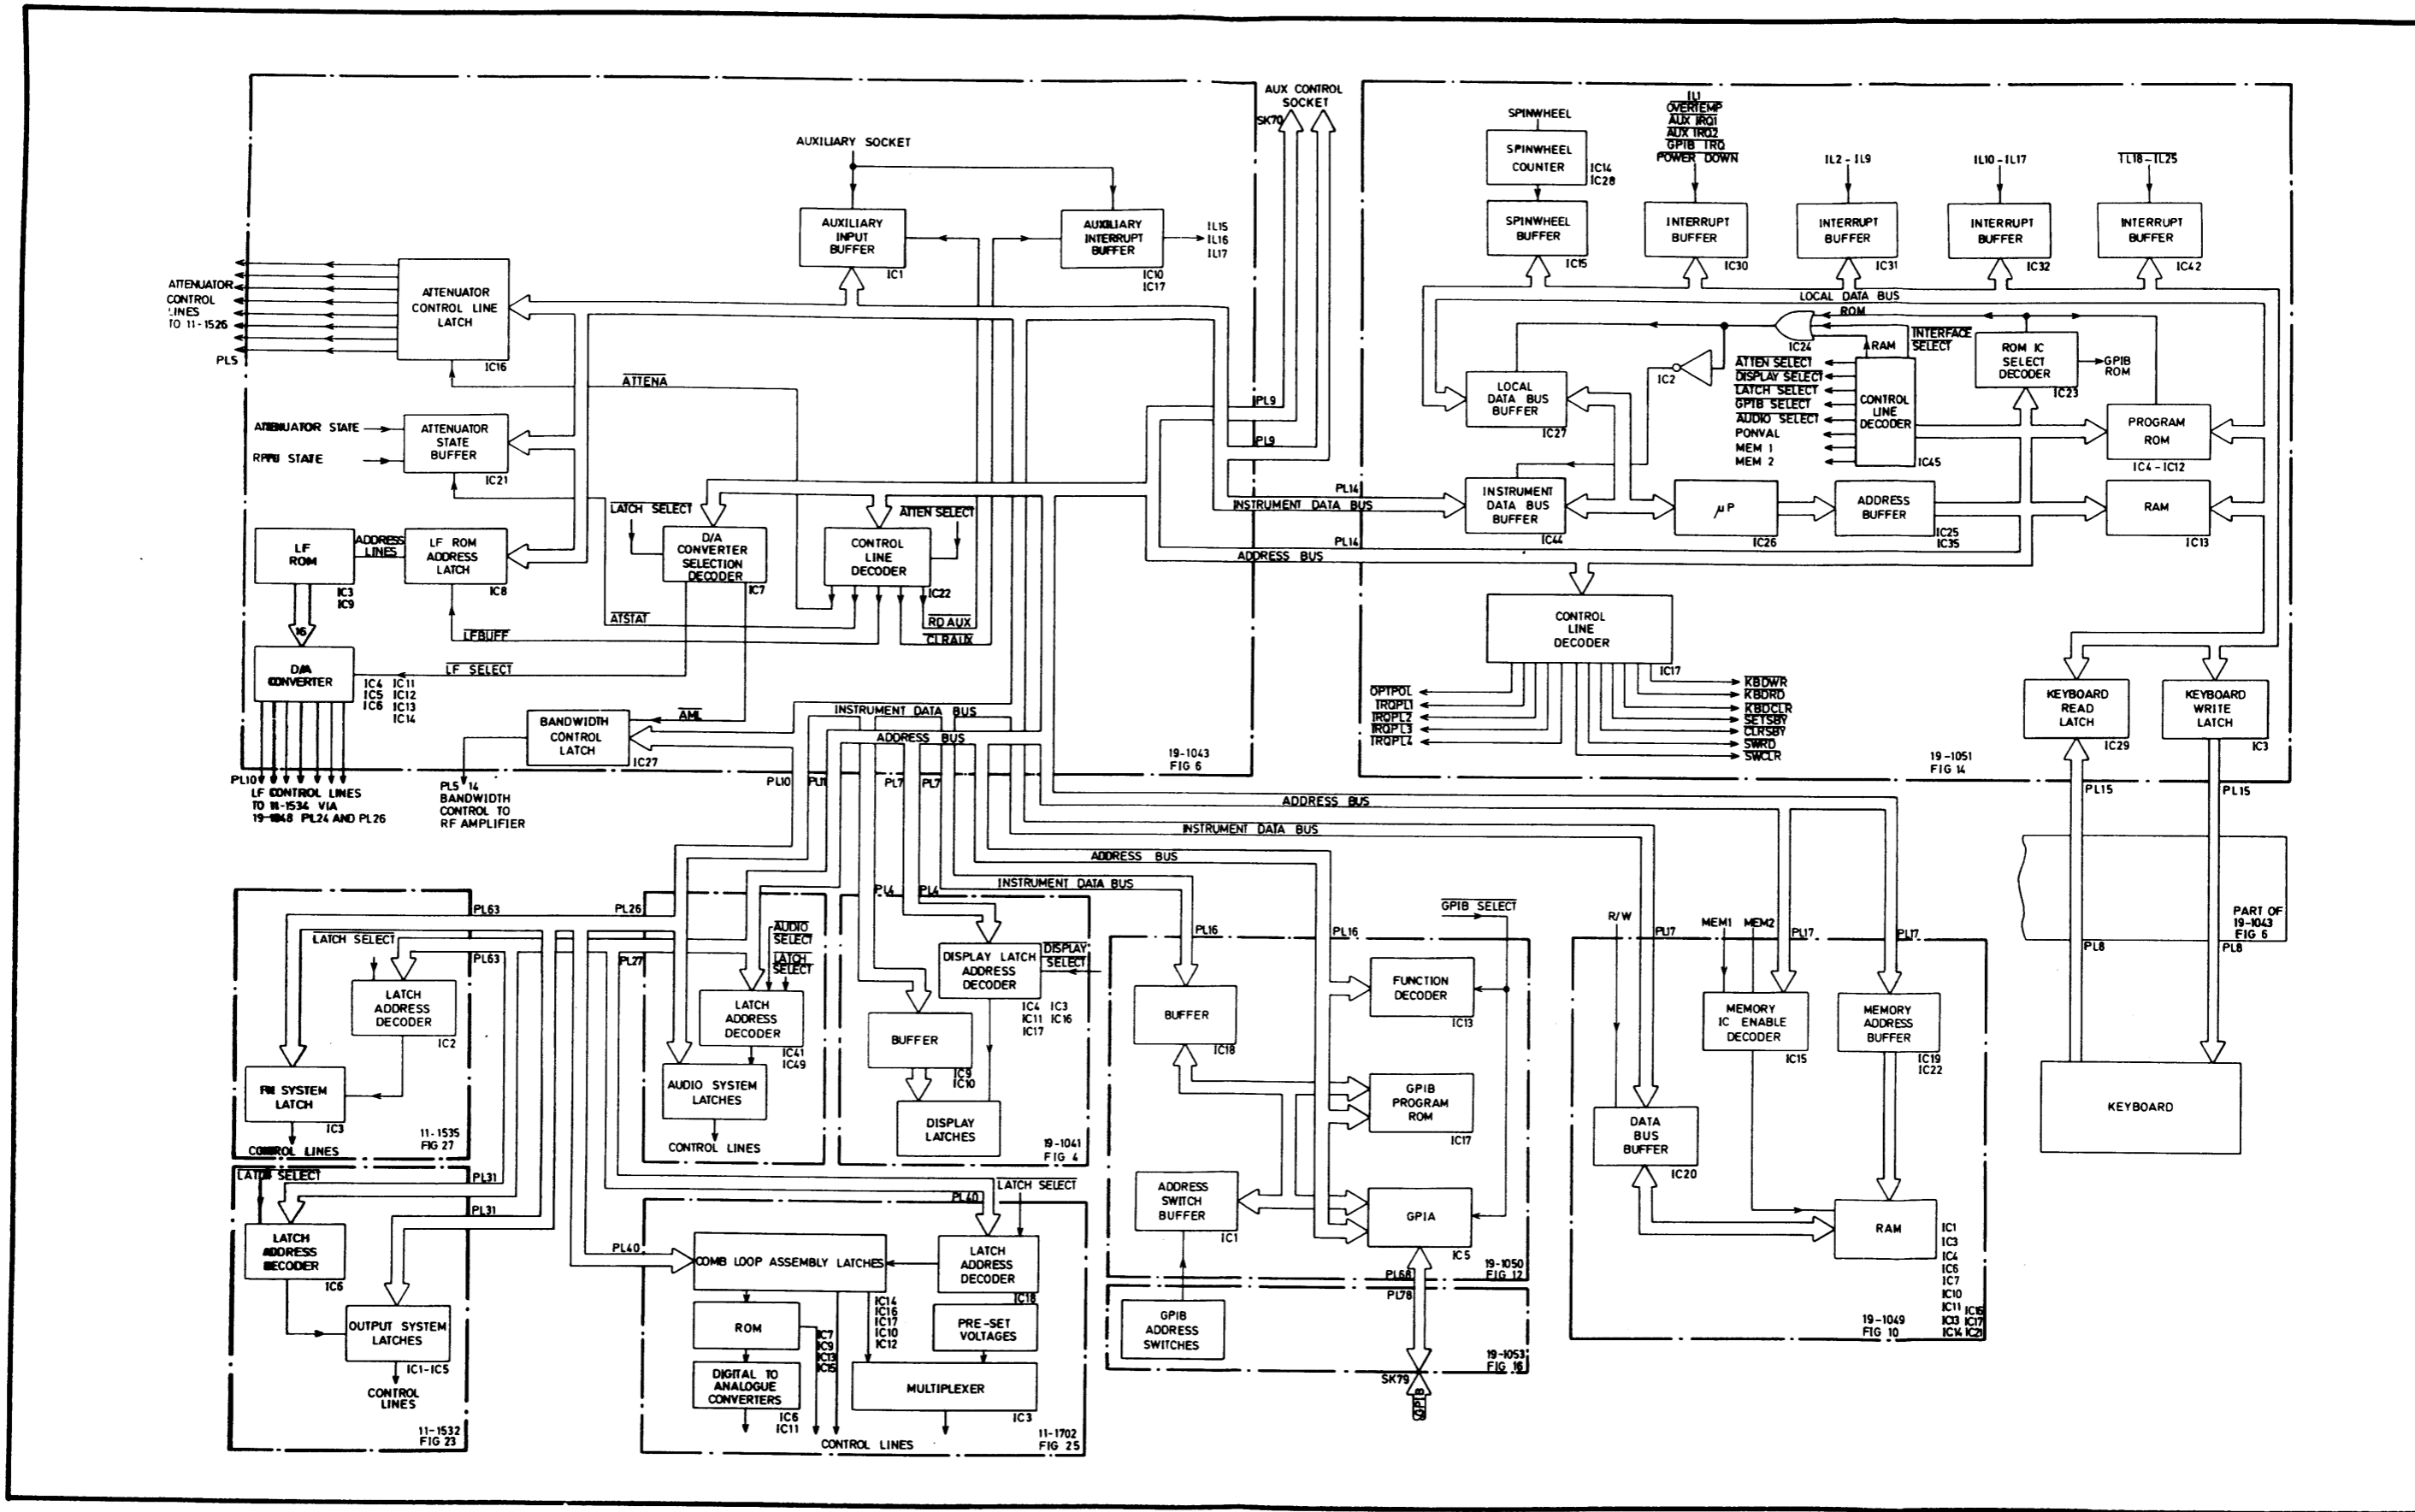
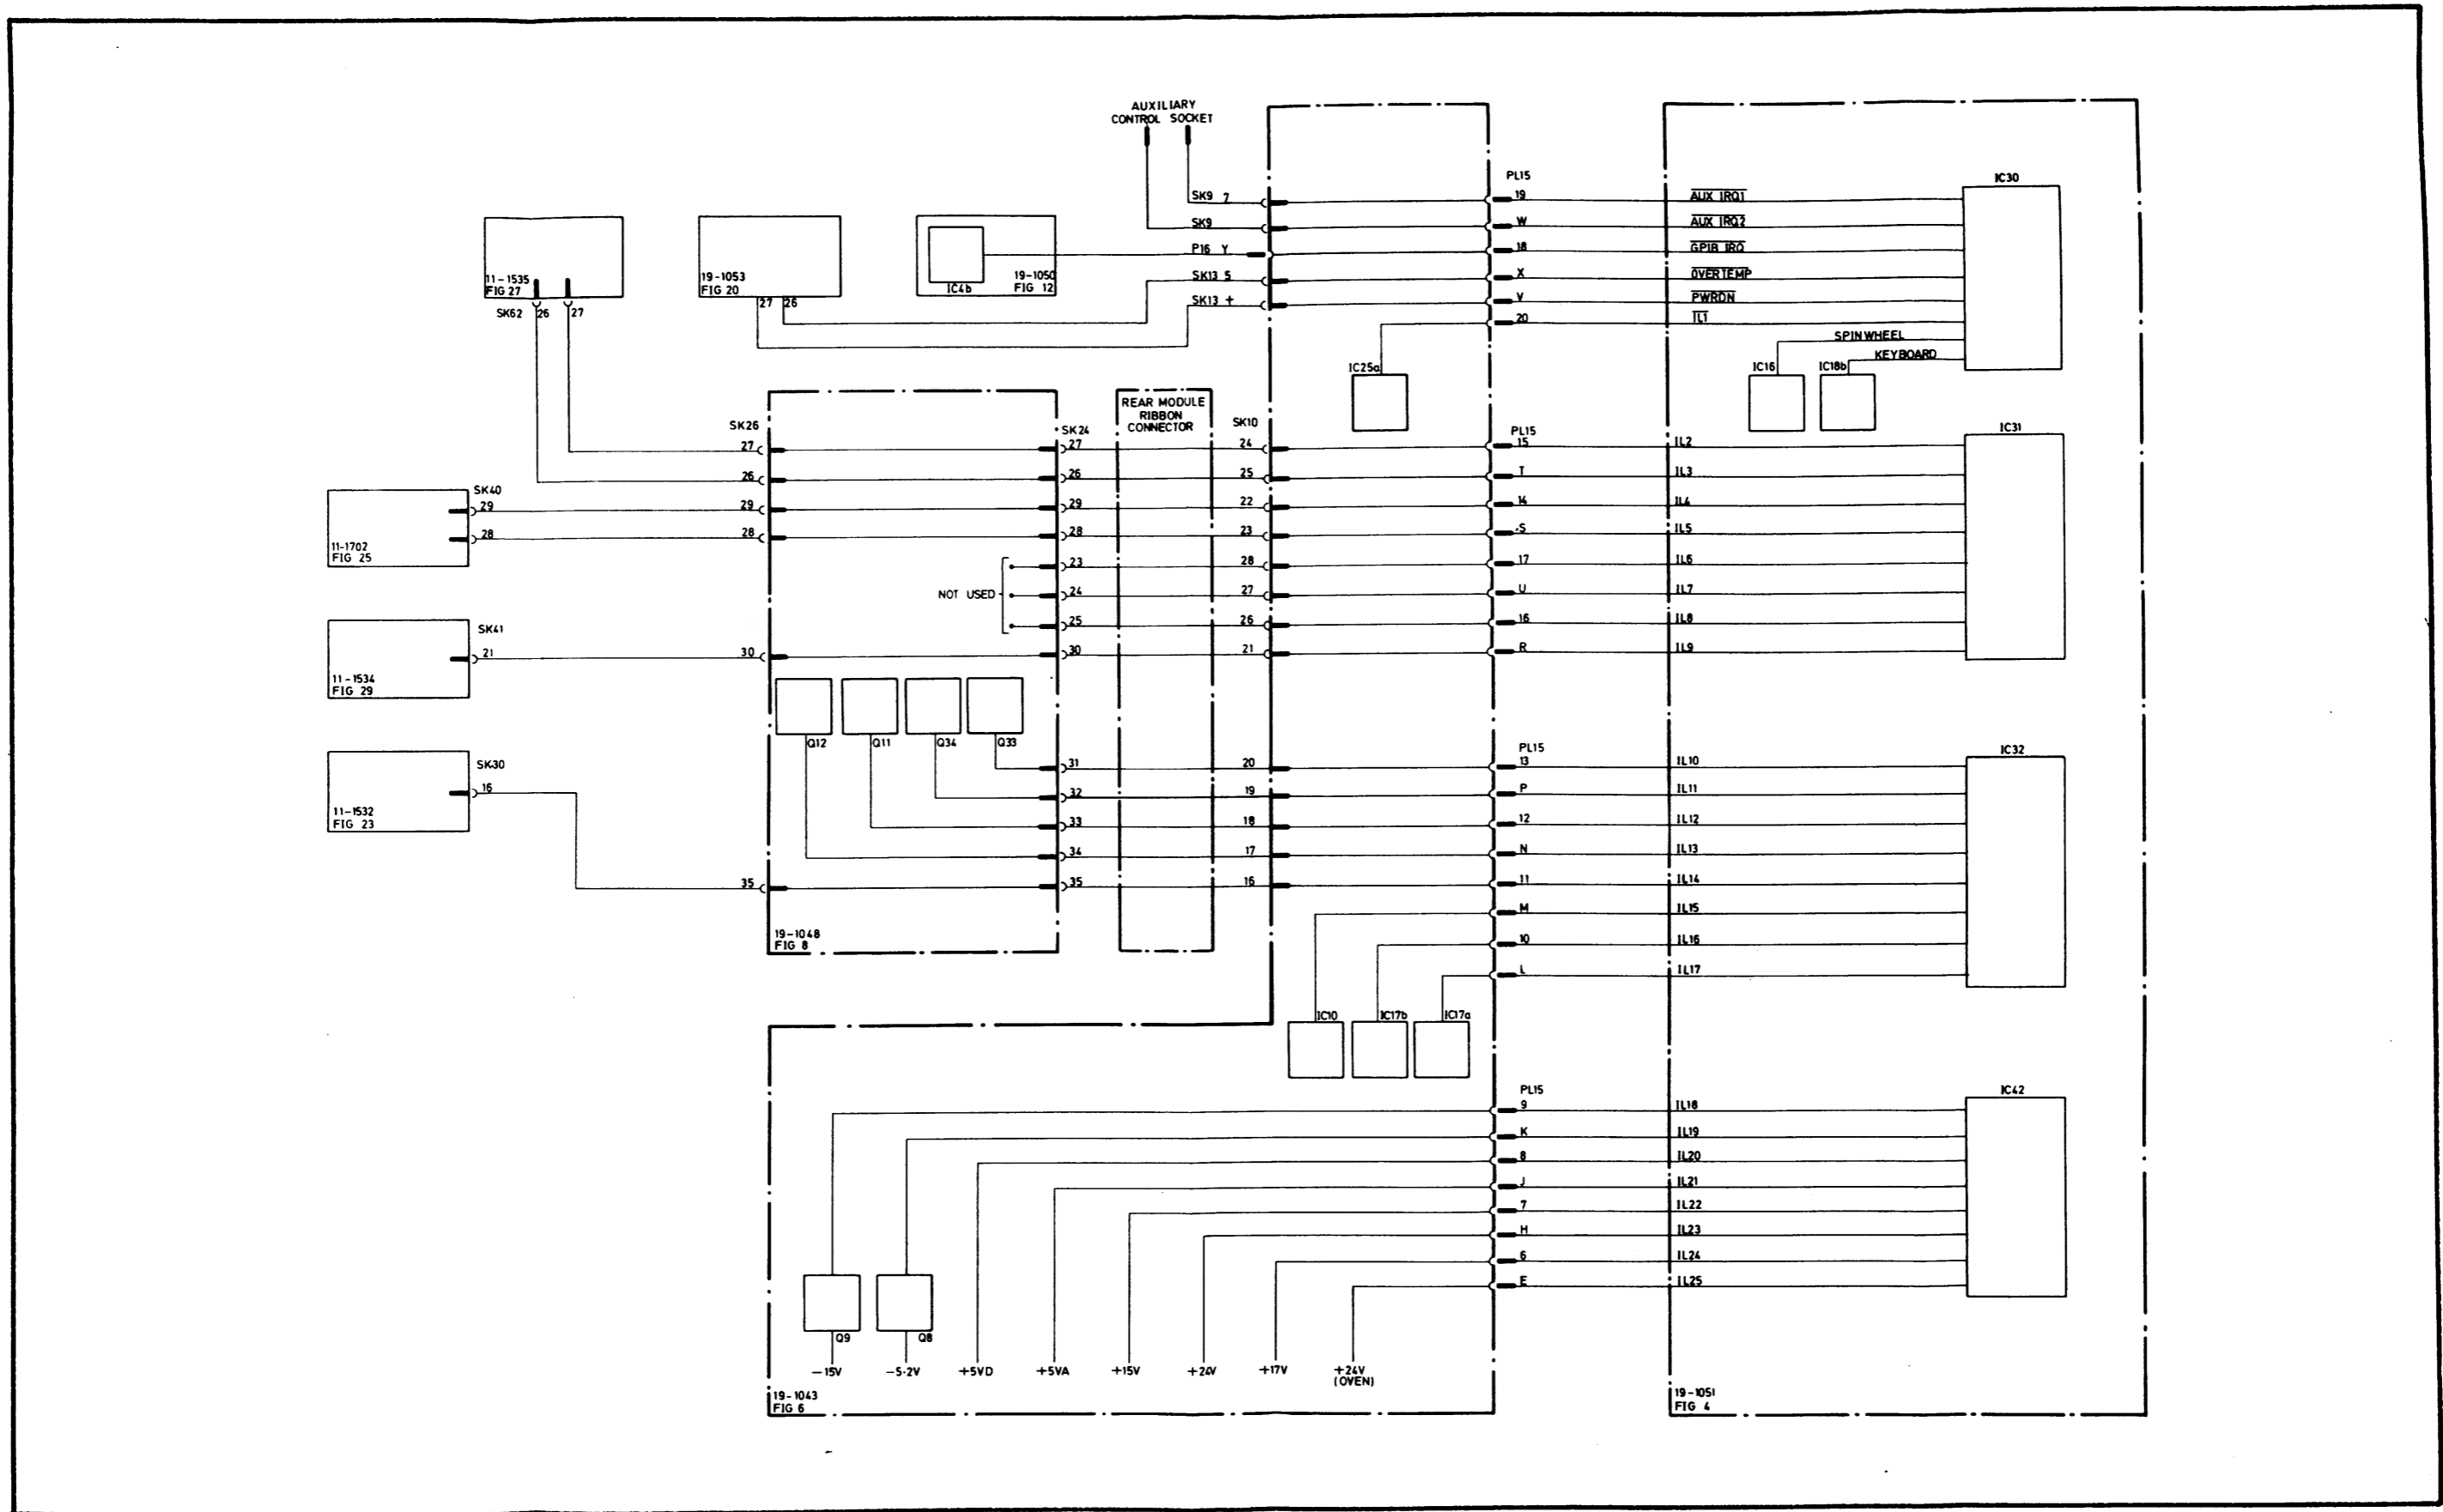

Fig. 6.6 Bus Structure
Fig. 6.7 Interrupt System
6.5.3.2 The assemblies of the system are interconnected by the instrument data and address buses, and by a number of control lines. A schematic diagram of the main interconnections is given in Fig. 6.6.
6.5.3.3 The system is controlled by a microprocessor, which is mounted on the processor assembly. The microprocessor is interrupt-controlled, using a system of 32 interrupt lines. A schematic diagram of the interrupt line system is given in Fig. 6.7
6.5.4.1.1 The processor assembly carries the microprocessor, the program ROM, a RAM, part of the address decoding circuitry and the interrupt request generating and polling circuits. A diagram of the bus layout connecting the processor assembly to other assemblies within the instrument is shown in Fig. 6.6, while the interrupt system is shown schematically in Fig. 6.7. The complete circuit of the processor assembly is shown in Fig. 14 in Section 8 of this manual.
6.5.4.7.1 The 32 interrupt lines are connected to the buffers and line drivers IC30, IC31, IC32 and IC42. A schematic diagram of the interrupt line system is given in Fig. 6.7. At the connections to IC30, the interrupt condition is represented by a logic '0', and an inverting buffer is used. At the connections to IC31, IC32, and IC42, the interrupt condition is represented by a logic '1'.